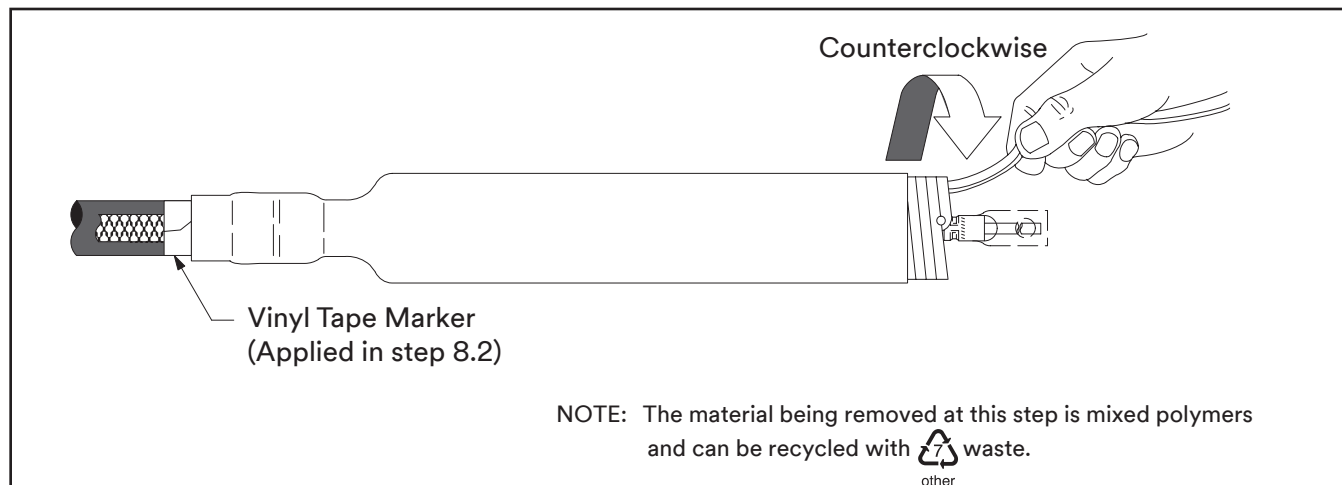

Figure 16
11.1 Slide the termination body onto the cable and remove core. Make sure the termination body (not the core) is butted up to the edge of the vinyl tape marker previously applied in Step 8.2 (Figure 16). Pull the core while unwinding, counterclockwise, starting with the loose end (Figure 16). Be sure to alternate the pulling and unwinding actions (pull-unwind-pull-unwind-etc.) to help prevent the core material from binding up as the core is being removed.